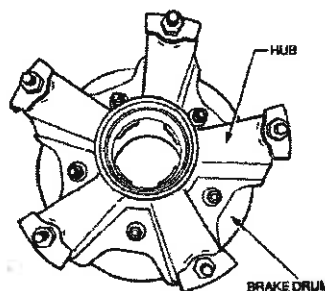

Figure 29 Brake Drum and Hub
- d. Remove the five bolts, nuts and washers securing the drum to the hub (Figure 29).